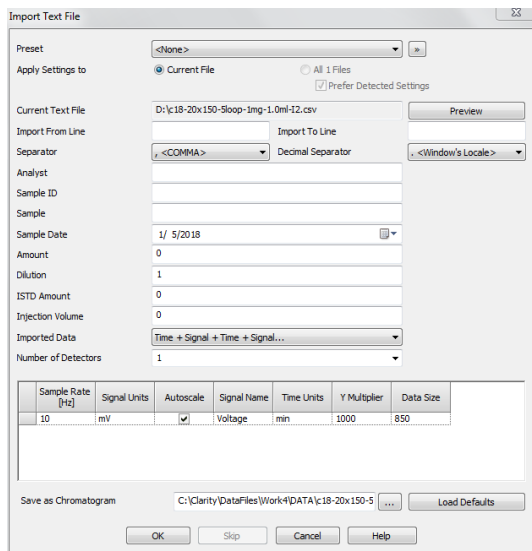

Figure 10:
- Another window opens offering you different variables to modify, these should not need to be changed, and an example is shown in Figure 10.